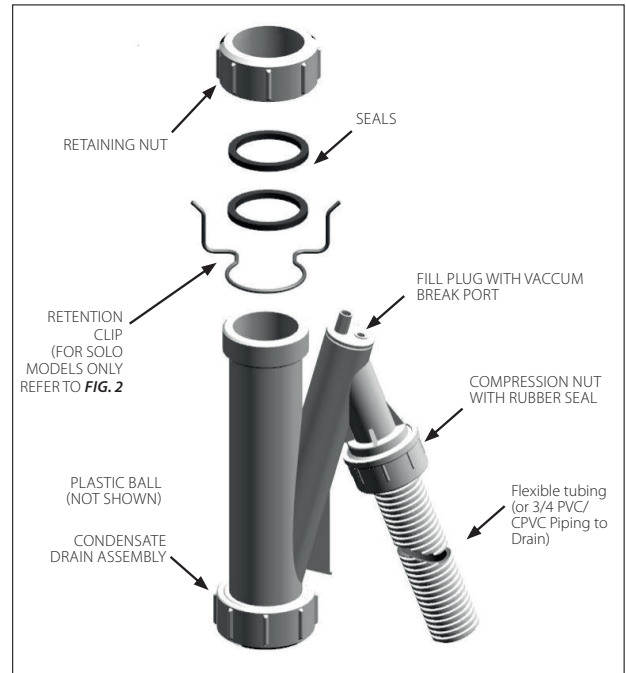
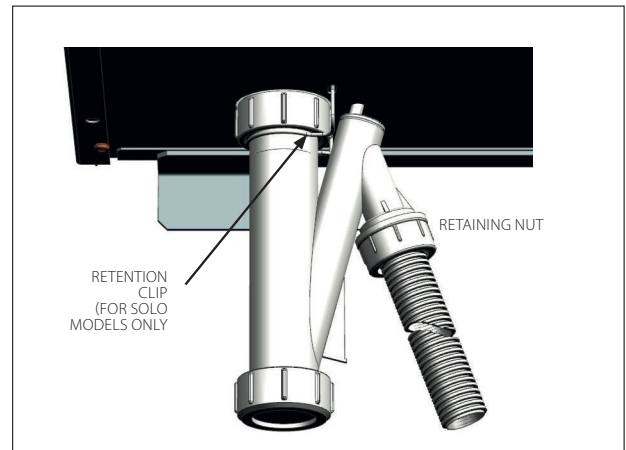

Fig. 1 - Condensate Drain Assembly
Fig. 2 - Condensate Retention Clip - (Solo Models only)
1. Ensure condensate drain assembly is firmly secured to bottom of the unit. See Fig. 1 on the right. Ensure the Retention clip is secure. See Fig. 2 (Solo Models only).